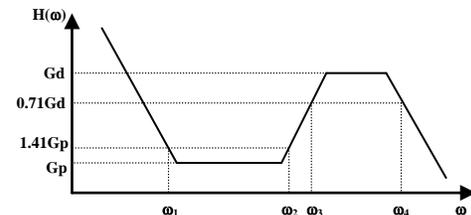

Figure 11. Transfer Function of the Compensation Network
The transfer function of the compensation network, defined as $H(\omega) = VTEC(\omega) / TEMPSET(\omega)$, is shown in Figure 11.
- d. $C_D \cdot R_I$ determines the corner frequency, $\omega_2 = 1/(C_D \cdot R_I)$, where the differential component starts picking up (see Figure 11), as the frequency goes up.